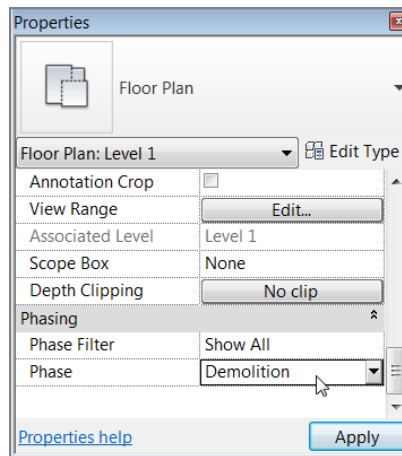

FIGURE 21.4: Changing Phase to Demolition
15. In the Properties dialog box for the Level 1 Demolition plan, scroll down to Phasing, and change Phase to Demolition, as shown in Figure 21.4. Change Phase Filter to Show All.